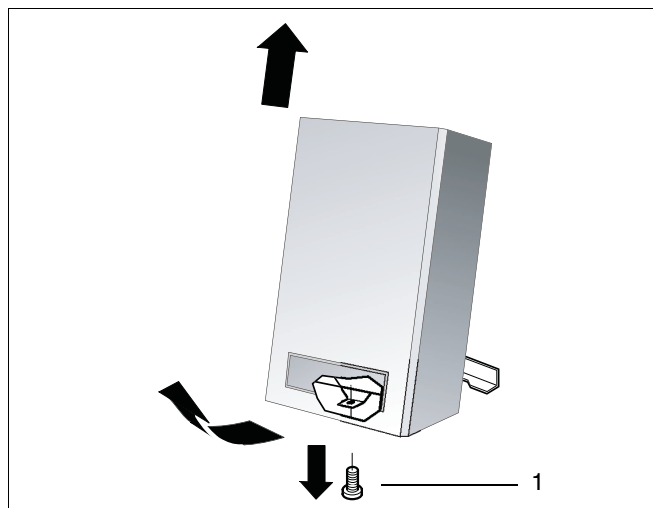

fig. 6 Remove outer casing
- Loosen the retaining screw on the bottom of the condensing gas boiler (fig. 6, item 1).